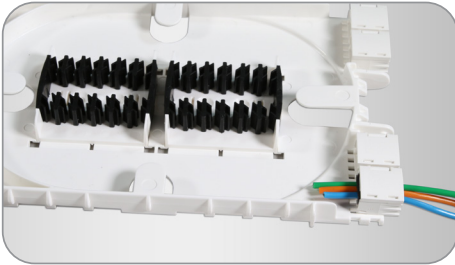

Figure 8a
- No zip ties needed (Figures 8a and 8b)